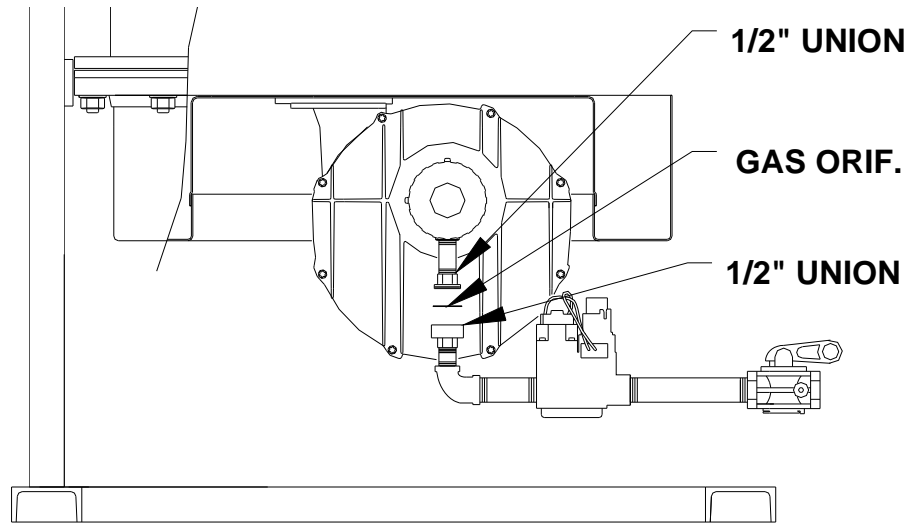

FIG 1 WHITE-RODGERS VALVE AND ORIFICE
4. Remove the existing White-Rodgers gas valve and discard (Fig. 1)